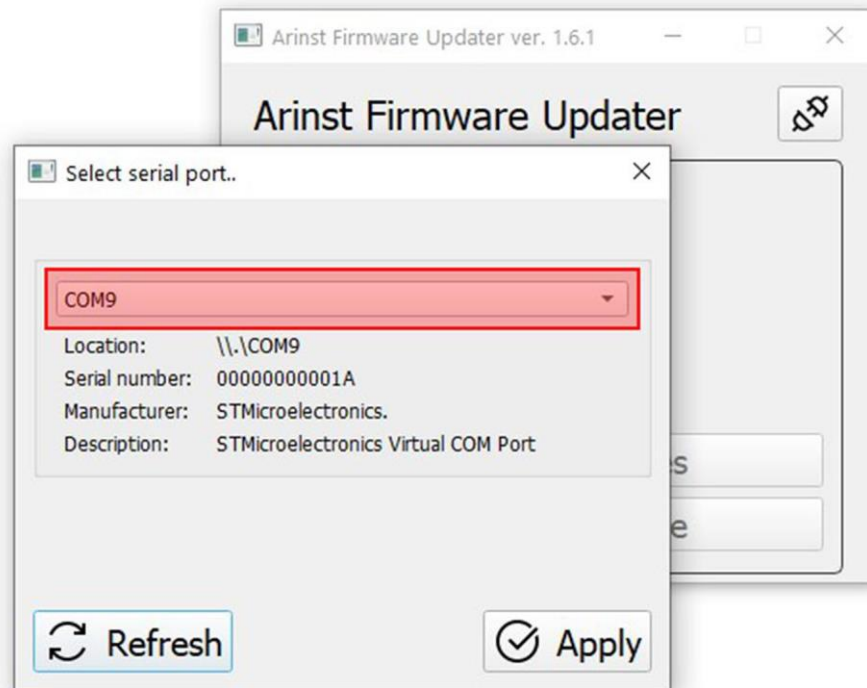

Figure A2.2 - Choosing a virtual COM port for connecting the device
2.4. In the window that opens, select the virtual COM port for connecting the device from the drop-down list (Figure A2.2).
In our example in figure A2.2, the virtual port COM9 is selected.